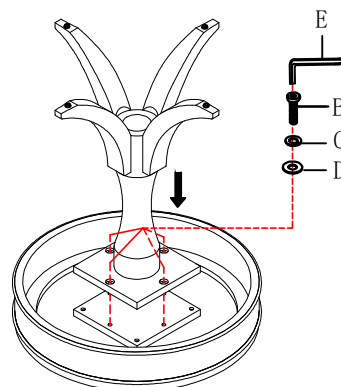

Figure 3
4. Attach the table base to the bottom of table top, using Allen bolt (B), Lock Washer (C), Flat Washer (D) with Allen wrench (E) as shown in Figure 3.